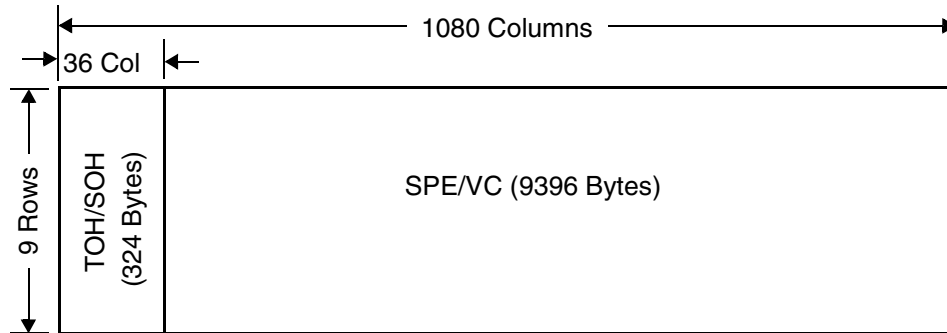

Figure 6: STS-12c/STM-4 Structure
The SONET/SDH frame generation block creates an STS-12c/STM-4 or STS-3c/STM-1 by generating the Transport (Section) Overhead (TOH/SOH) bytes, filling the payload with bytes from SPE/VC, and scrambling all bytes of the SONET/SDH signal except for the first row of TOH/SOH bytes. The structure of an STS-12c/STM-4 is shown in Figure 6.
In Figure 6, the first 36 columns of each row are shown as the TOH or SOH. This is not strictly true for SDH, because the first 36 columns of the fourth row of SDH frames is not considered part of the SOH. Instead, the Administrative Unit (AU) pointer bytes in this row are grouped with the VC to form an AU-4-4c. For simplicity, we will follow the SONET convention and include them with the TOH/SOH description.